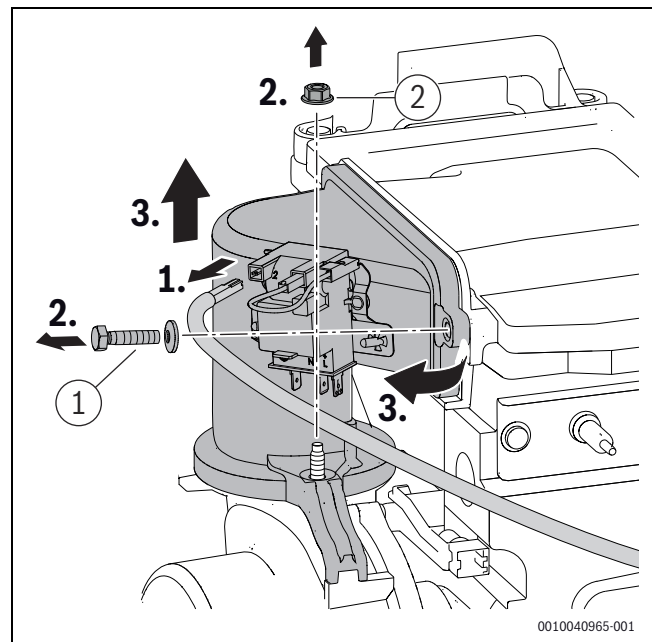

Fig. 48 Removing the mixing device
- ▶ Tighten the screw and nut ([1] and [2], Fig. 48) on the mixing device with 5.5+0.5 Nm.